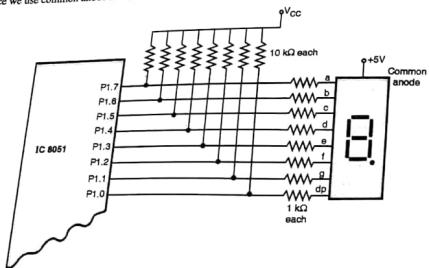

Fig. 9.3.4 : Interfacing common anode SSD to 8051
- Hence we use common anode SSD, and connect it to 8051 as shown in Fig. 9.3.4.